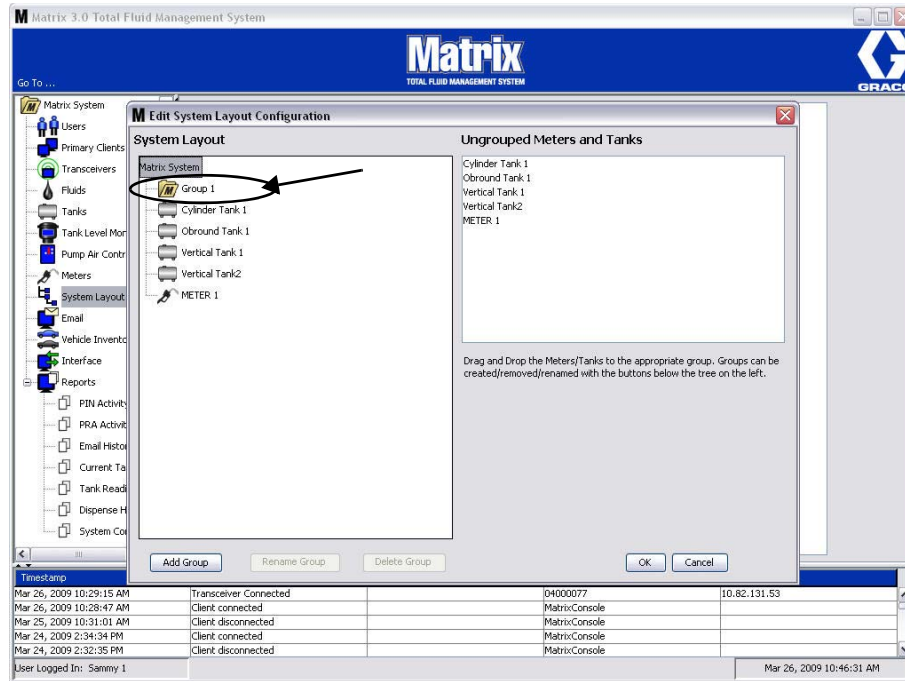

FIG. 144
6. A folder is added on the Matrix System side of the screen as shown in FIG. 144.